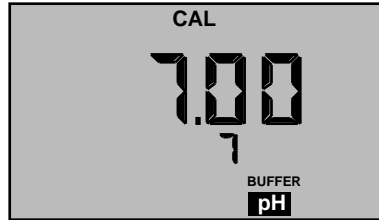

Figure 1
4. Press  to enter calibration mode. The “CAL”, “BUFFER” and “7” annunciators will appear (see Figure 1). Displayed value will be the uncalibrated sensor.